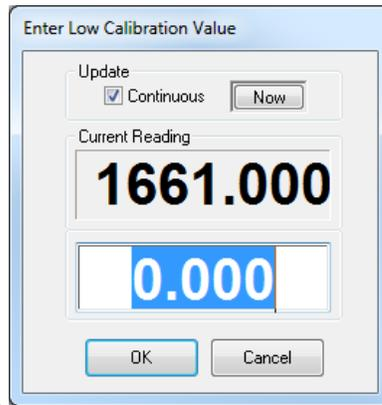

Figure 100: AI low calibration value (voltage mode)
- This procedure details the calibration procedure for a three (3) point calibration. Available target values will be displayed in the calibration window and will become active in the prescribed calibration order: Low Cal Point, 100% Cal Point, and 50% Cal Point.
12. Click **Low Cal Point**. This should represent the lowest calibration point. In this example it should equal zero (0) for a 0-100 range.
- b. When the current reading stabilizes, click **OK**. (Figure 100).